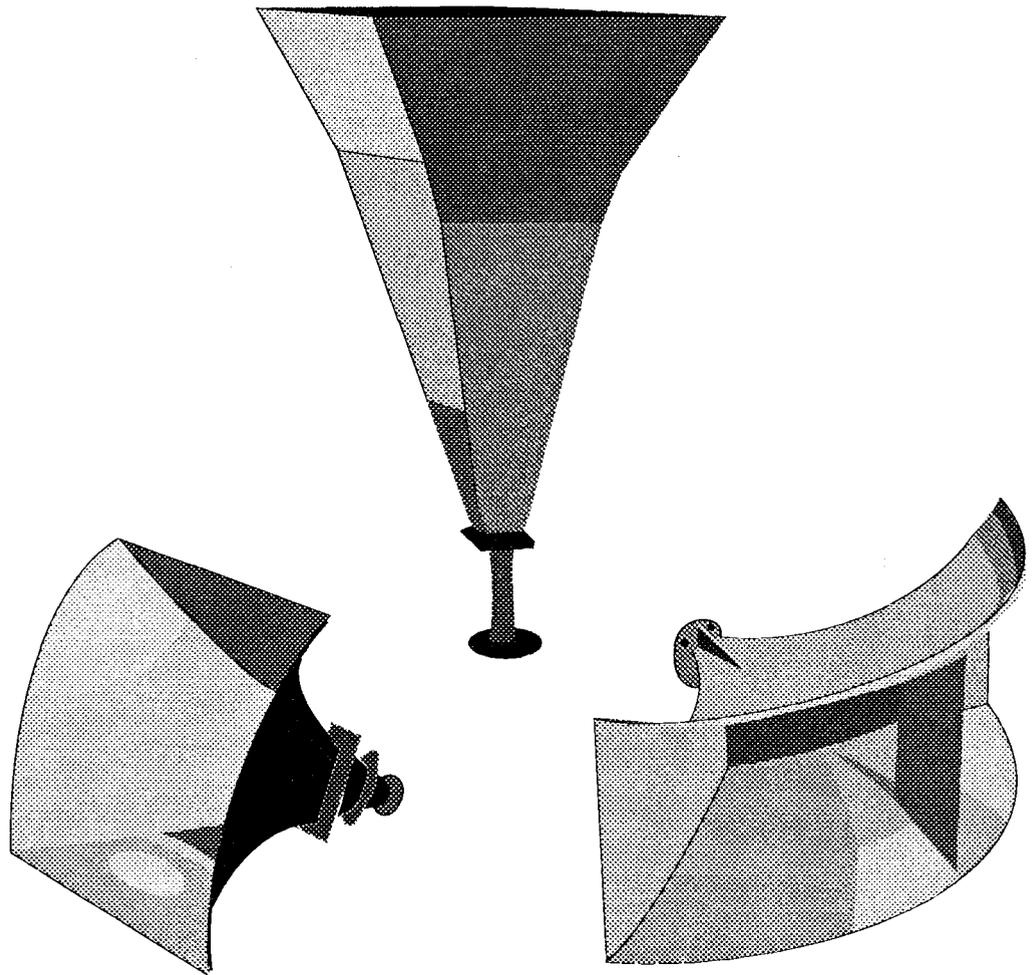

Figure 13-17. A variety of constant directivity horns
*Constant directivity (CD) horns* employ compound flare rates, with different rates in the horizontal and vertical axes. Refer to Figure 13-17. Because their directional characteristics are very consistent over a wide frequency range, constant directivity horns are becoming increasingly popular in sound reinforcement. The advantage is that once coverage is computed at a given frequency, the same coverage applies at all frequencies within the range where the horn exhibits constant coverage. This simplifies system design and often improves intelligibility.